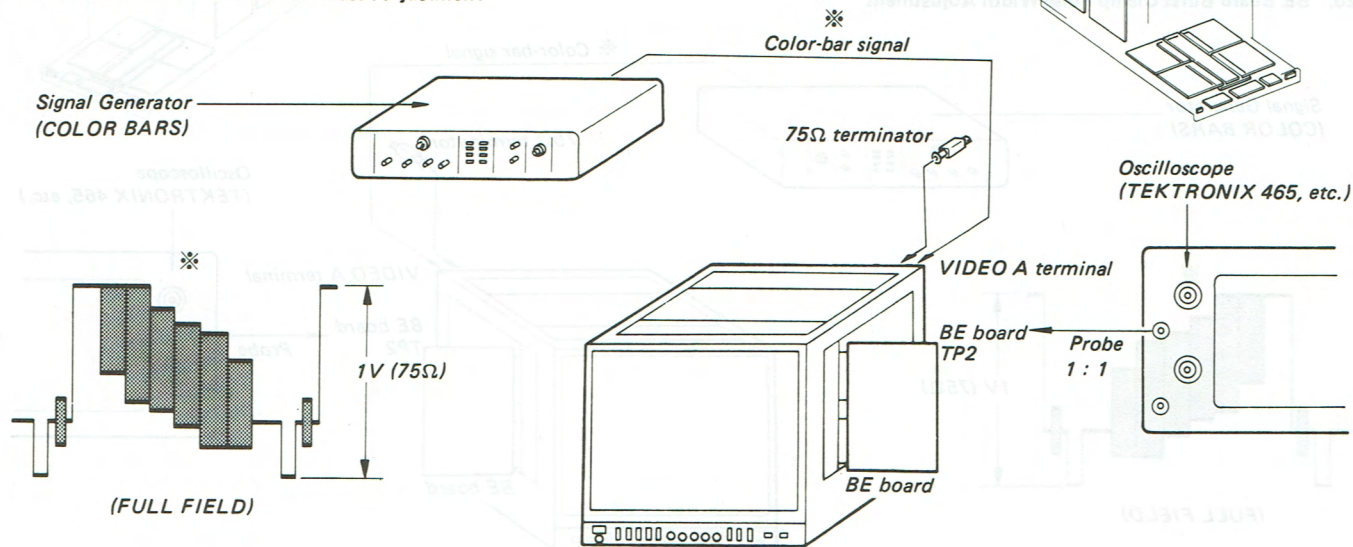

Fig. 26-1.
1. Complete the connections as shown in Fig. 26-1.